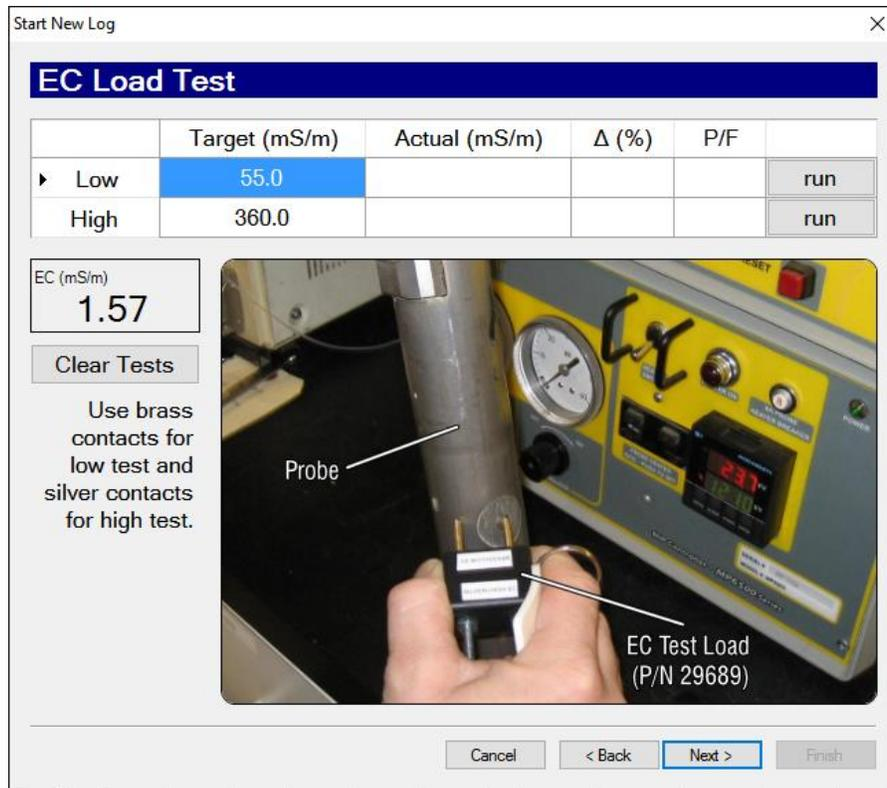
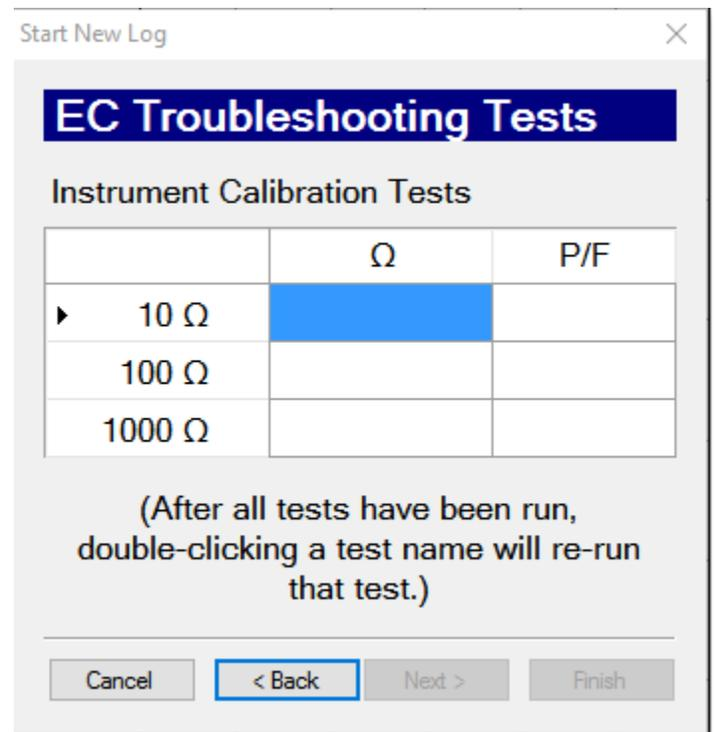

Figure 5.3 EC Load Test Window
Figure 7.1
A. EC Load Test (Fig. 5.3)
1. On the EC load test window (Fig. 5.3) select "Finish". The EC troubleshooting test (Fig. 7.1) will run if either EC load test has failed. The EC troubleshooting test will verify the FI6000's 10, 100, and 1000ohm EC calibration.